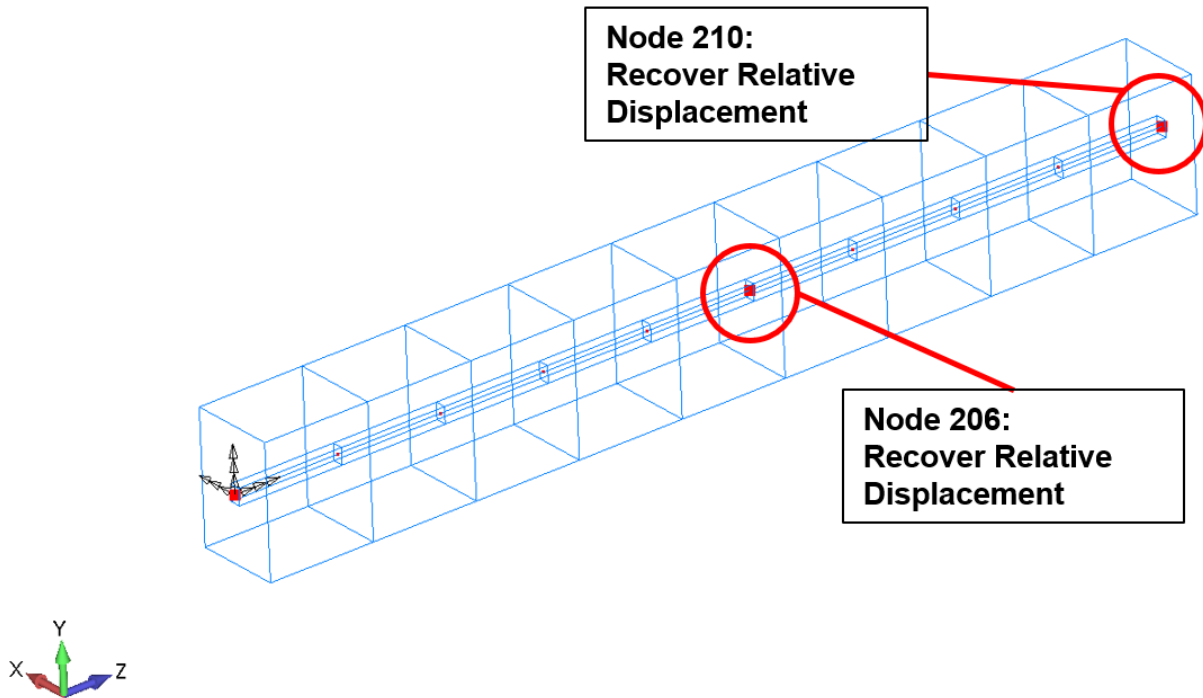

Figure 4-123. Coincident beam model showing nodes of special interest.
1. Import the concentric beam model "coincident_beams.dat" into Femap. Save the model file as "coincident_beams.modfem." Figure 4-123 shows the model with notes about nodes that are of special interest for this analysis.